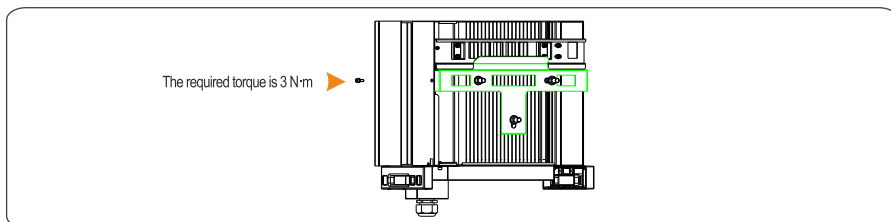

Figure 4.12 Securing the inverter
Step 3 Tighten one screw at the right of the inverter and the retaining screw on the rear panel, and ensure that they are secured, as shown in Figure 4.12.